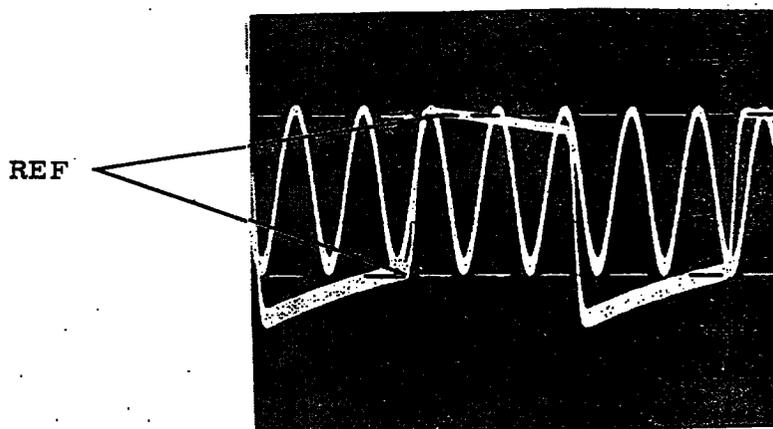

FIGURE 6-29 LOOP MODULATION
- g. Refer to Figure 6-29 for procedure to determine percent of loop modulation.
Establish loop modulation reference level per Figure 6-29, then change to ANT mode and apply 400Hz modulation. Adjust percent of modulation control for same reference then read % of modulation direct from meter.